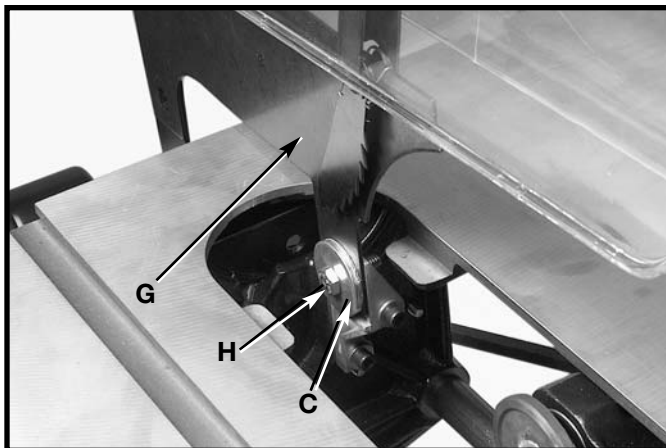

Fig. 28
7. Assemble the blade guard and splitter assembly (G) Fig. 28 between the large washer (C) and the splitter bracket and **tighten bolt (H) with wrench supplied.**